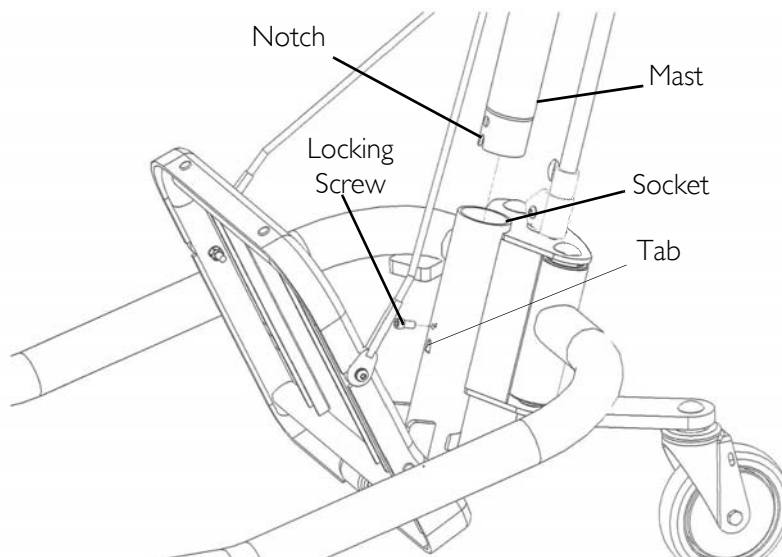
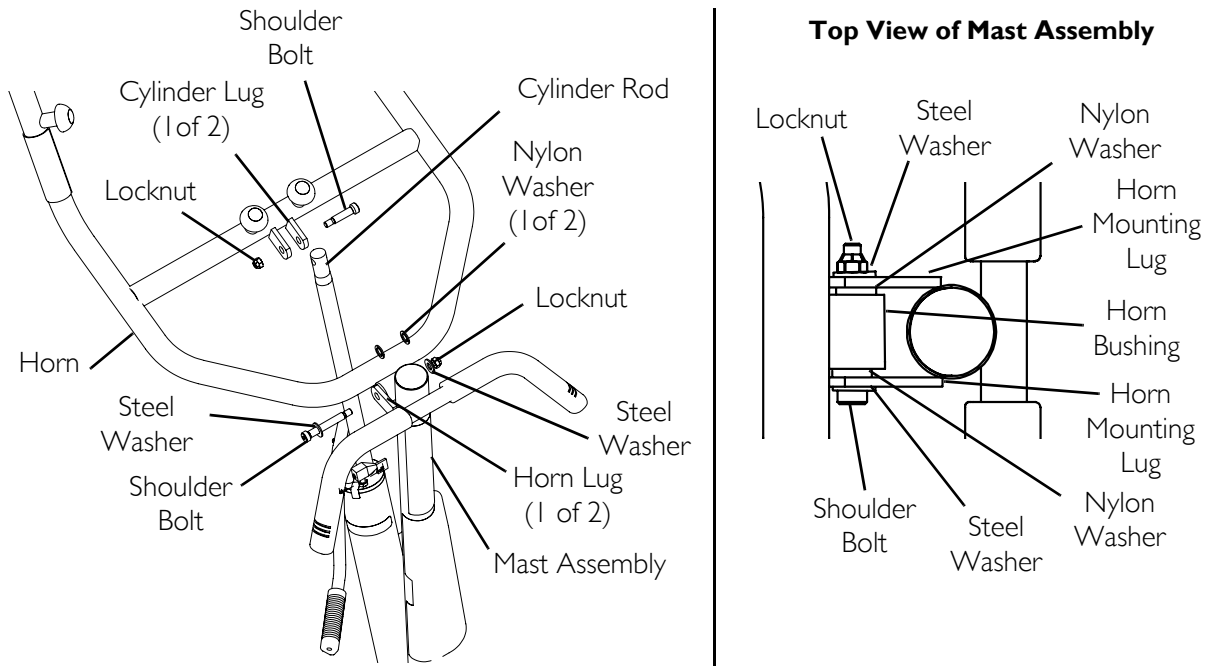

FIGURE 2.1 Assembling Mast to Base
FIGURE 2.2 Mast Assembly
NOTE: For this procedure, refer to FIGURE 2.1 and FIGURE 2.2 on page 12.
9. Insert the shoulder bolt completely through the holes of the horn mounting lugs, horn bushing, nylon washers and steel washers. Refer to FIGURE 2.2 on page 12.